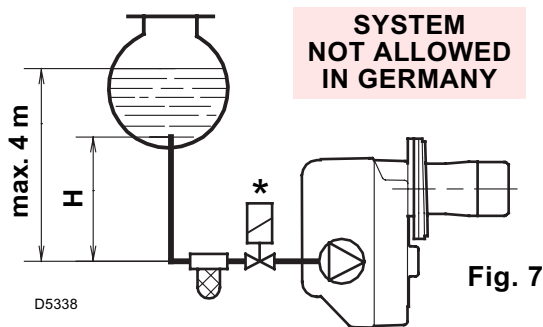
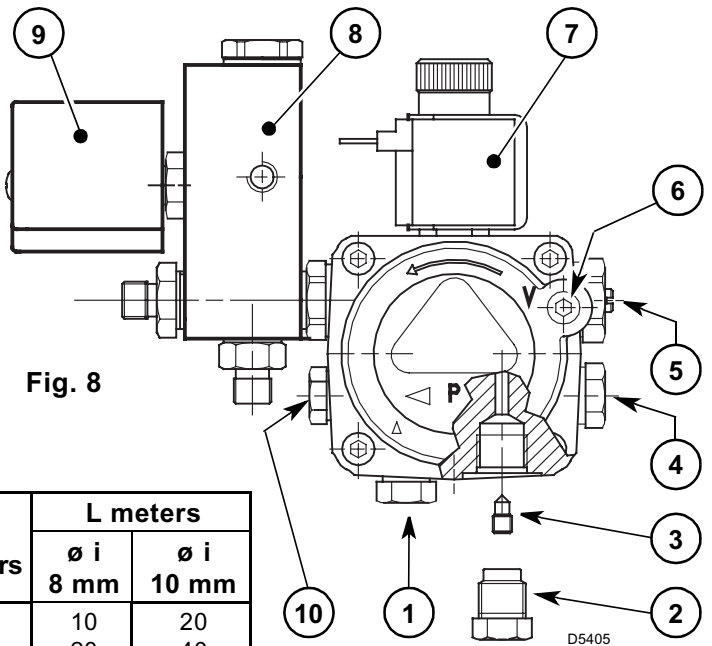

Fig. 7
Fig. 8
- ▶ The pump is designed to allow working with two pipes. In order to obtain one pipe working it is necessary to unscrew the return plug (2), remove the by-pass screw (3) and then screw again the plug (2). (see fig. 8).
On the system in fig. 7 it is sufficient to loosen the suction gauge connection (6, fig. 8) and wait until oil flows out.